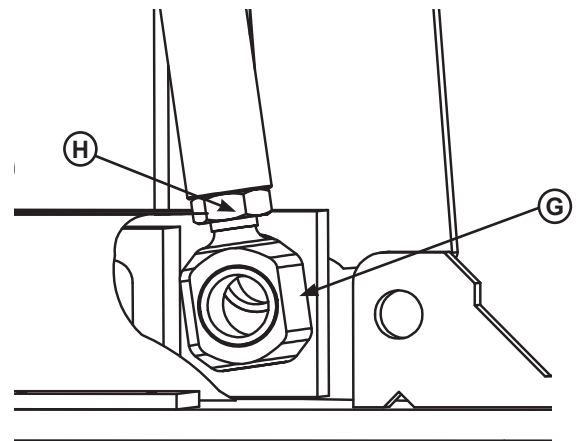

Figure 19
- b. Loosen the jam nut (H) and adjust the yoke (G) so that the center of the yoke is half way below the center of the hole of the embed (see **Figure 19**). After adjusted, tighten the jam nut.
- c. To center the rod eye with the embed, tap the lower button on the control panel until the cylinder pin (D) easily slides through both the trunnion and rod eye.